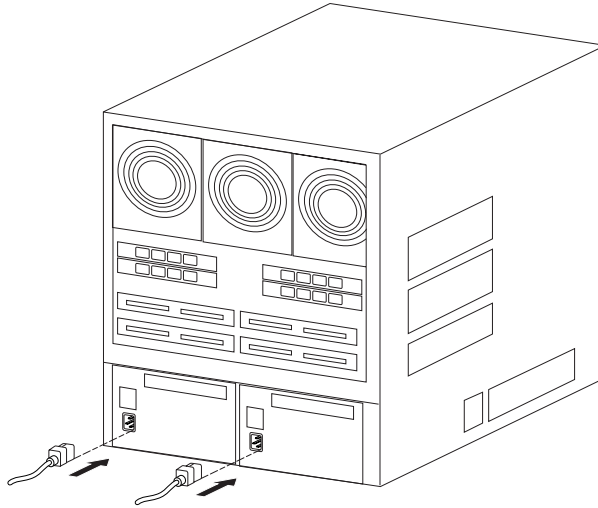

Figure 8: AC power connections (director)
3. Connect the U.S. or country-specific (optional) AC power cords to the right (PS0) and left (PS1) receptacles at the rear of the director, as shown in Figure 8.